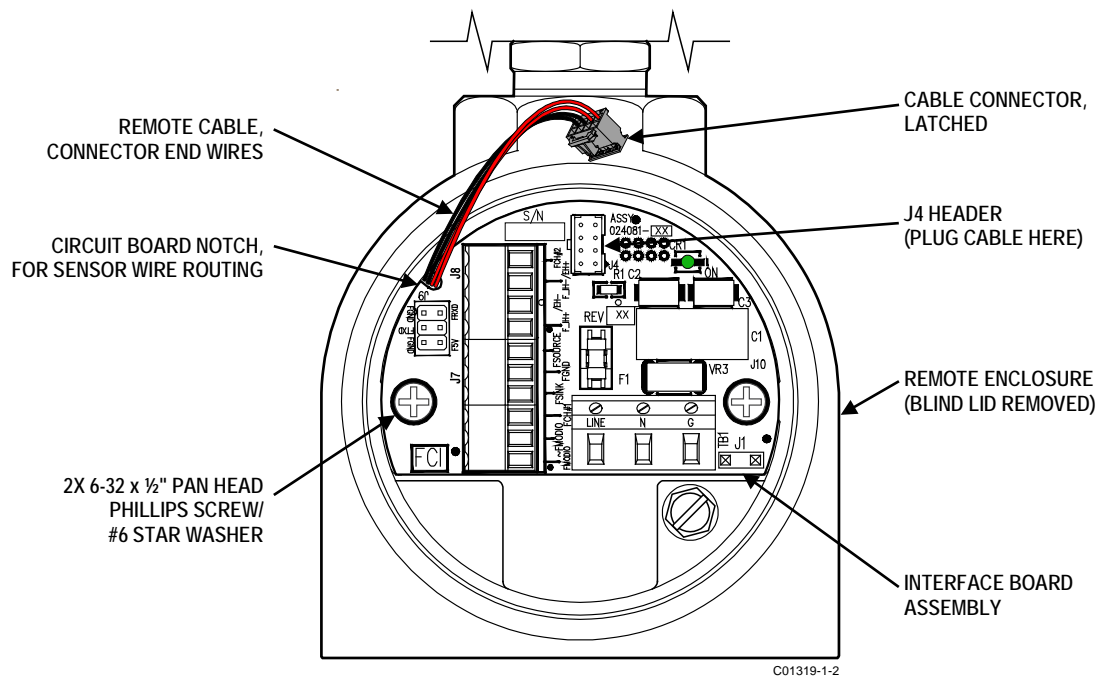

Figure 14 – Remote Enclosure Interface Board Connector J4 Detail (AC Version Shown)
10. Place remote cable in notch on curved edge of interface board PWB (with connector on component side of PWB) then reinstall interface board. See Figure 14 on page 16.